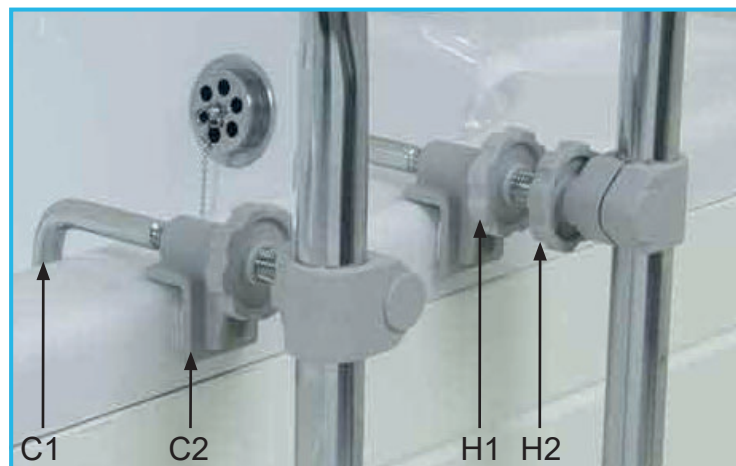

Figure 2: Clamps and Handwheels
1. Refer to Figure 2. There are two clamps. For each clamp, loosen handwheel H1 by turning anti-clockwise to open the clamp jaws C1 & C2.